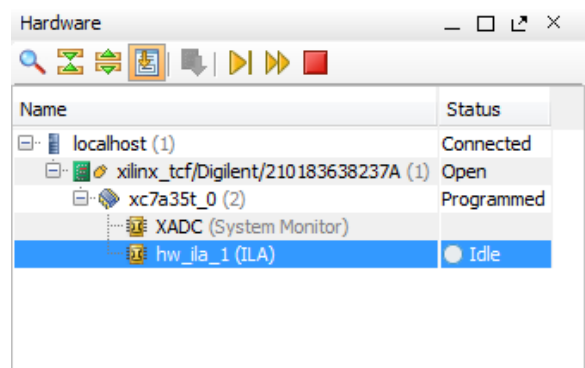

Figure 4. ILA Core Detection
2. Ensure that an ILA core was detected in the Hardware panel of the Debug view, as shown in Figure 4.